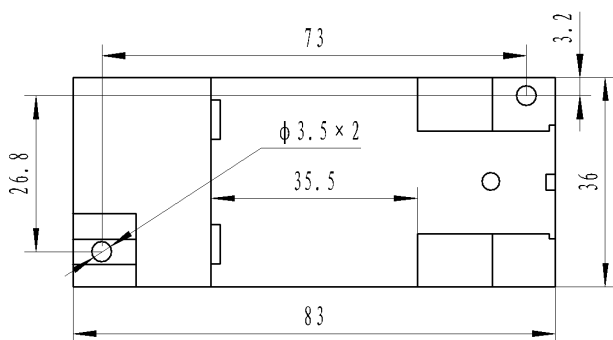

Figure 8, MS3 style installation dimension
- ③ Clip the transducer mount on the mounting rail;
- ④ Release the spring pin and clip the transmitter on the mounting rail.
①M3 screw hole in the fixed plate according to the screw hole position shown in Figure 8;
②Use the M3 screw to insert into hole and fix it.